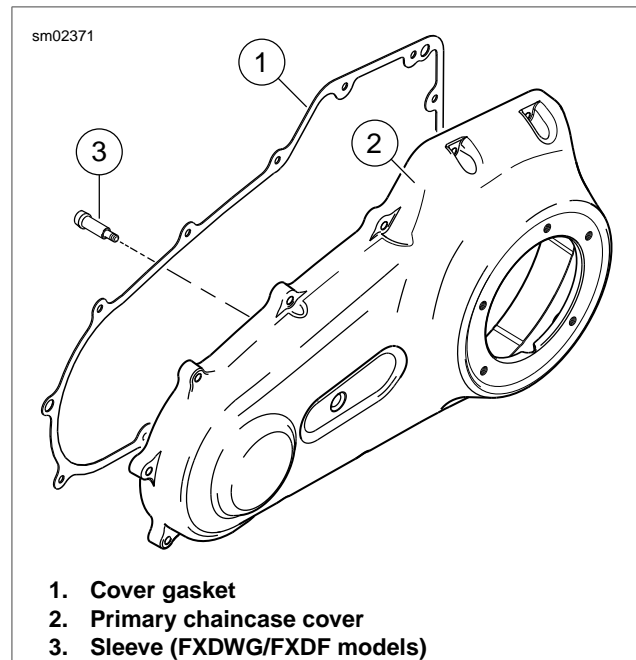

Figure 6-2. Primary Chaincase Cover Gasket
1. See Figure 6-2. On FXDWG and FXDF models, be sure sleeve (3) is installed in primary chaincase cover (2). Apply two drops of LOCTITE THREADLOCKER 262 (red) to sleeve threads and tighten sleeve to 15-19 ft-lbs (20.3-25.6 Nm).
3. See Figure 6-2. Install new cover gasket (1).